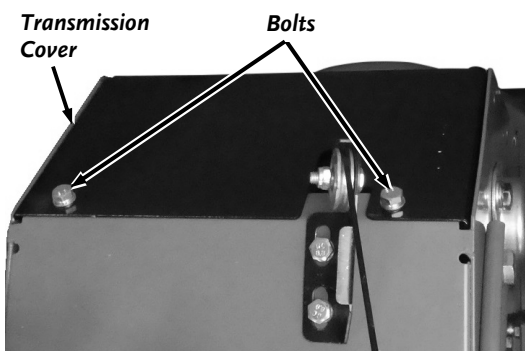

Figure 69
6. Use a 10mm Wrench to remove the two Bolts securing the Transmission Cover and remove the Transmission Cover (**Figure 69**).
11. Install the Transmission Cover (**Figure 69**).